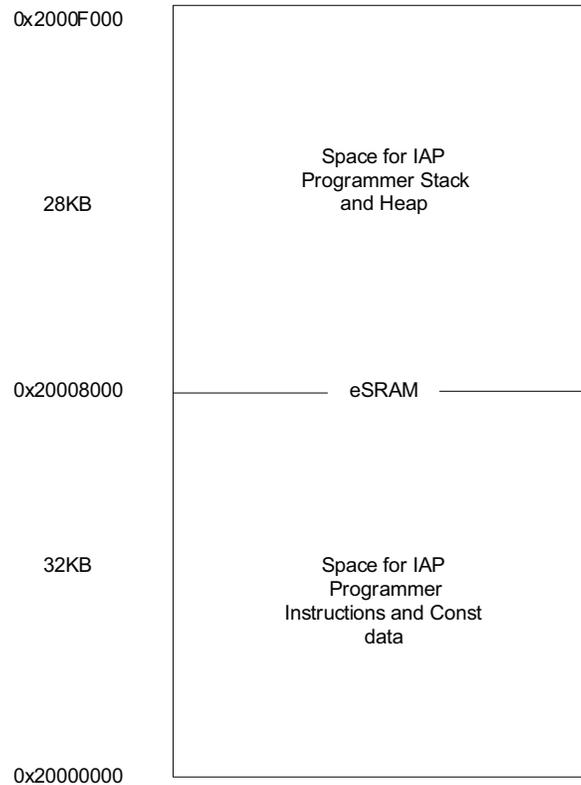

Figure 10 • Memory Regions Used for the IAP Programmer
3. The settings in the Figure 9 on page 10 generate the linker script with the memory map shown in Figure 10 for a production mode image. In this application note, this linker script is used to build the IAP Programmer algorithm implemented in software with eSRAM memory map.